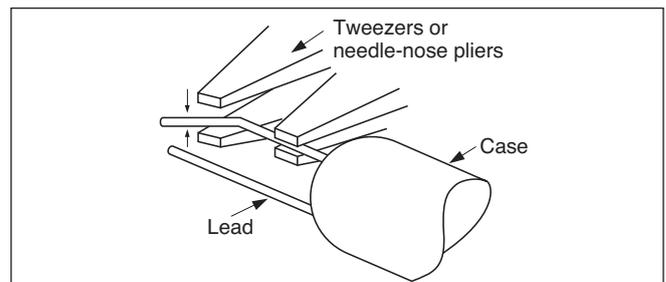

Figure 4
(2) Unbend the lead by pressing on the bent part from both the upper and lower sides with fixing the bottom of lead tightly (see Figure 4).